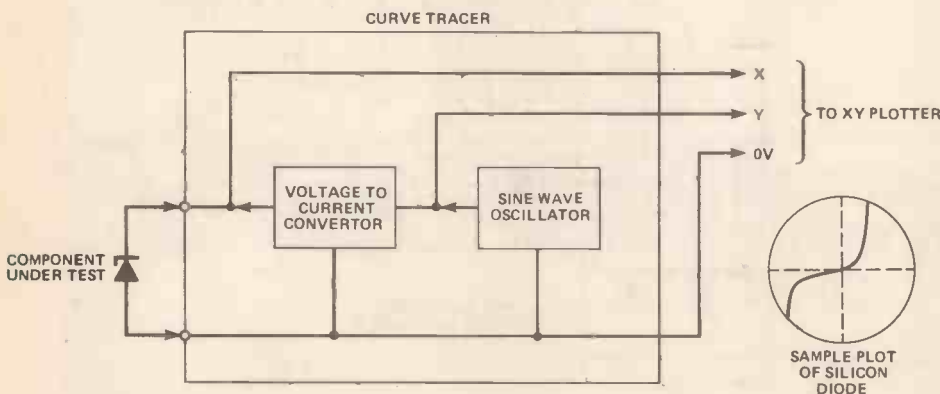

Figure 7. Block diagram of the curve tracer unit.
A curve tracer is a device that allows a plot of a component's voltage versus current characteristic, plotting current on the vertical (Y) axis and voltage on the horizontal (X) axis. This is useful for checking or identifying components such as diodes or transistors, as each device has a characteristic curve (that of a PN junction diode is shown in Figure 7). An oscillator periodically sweeps the required range of current by generating a representative voltage — this is applied to the Y input of the plotter. The voltage (which actually represents a current) is converted to a current in a proportional voltage to current convertor and is made to pass through the component being tested. The voltage which then develops across the component is fed to the X input of the plotter.